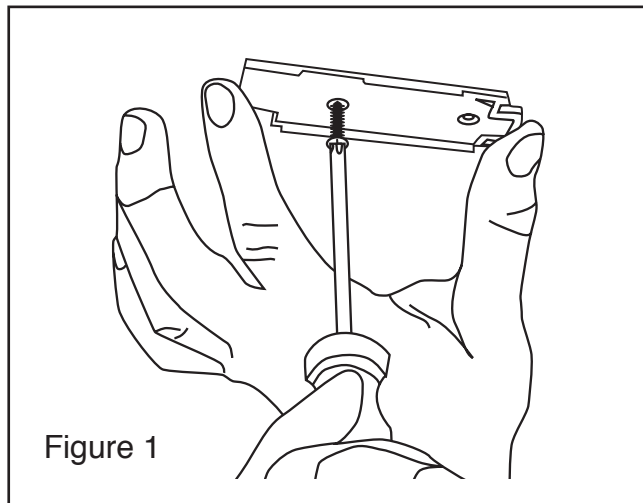

Figure 1
- ii. Drill two holes with a 3/16" drill bit and insert the anchors. (see figure 1)